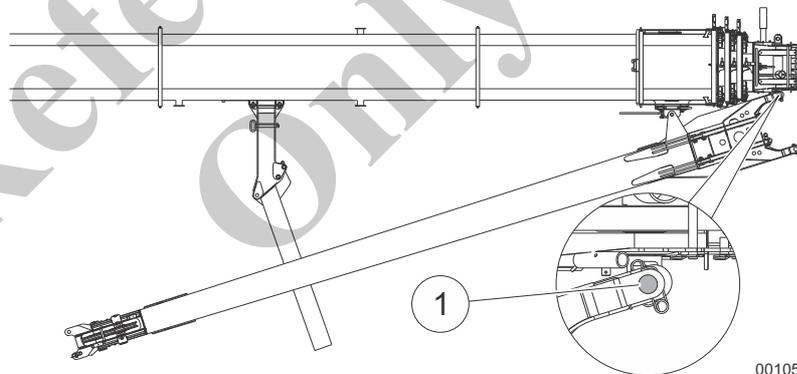

Fig. 211 Bolting the fly boom to the boom head
- 14 Bolt and secure the fly boom to the telescopic boom at the bolting position (1) in Fig. 211.